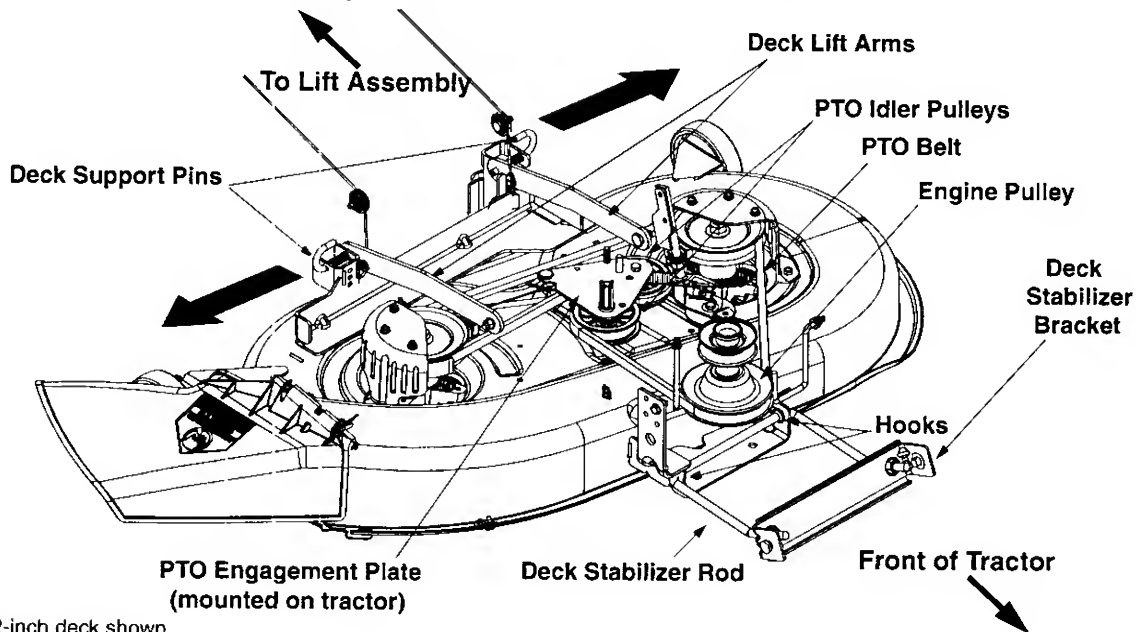

Figure 16
- Pull the deck support pin outward to release the deck from the deck lift arm. See Figure 16.